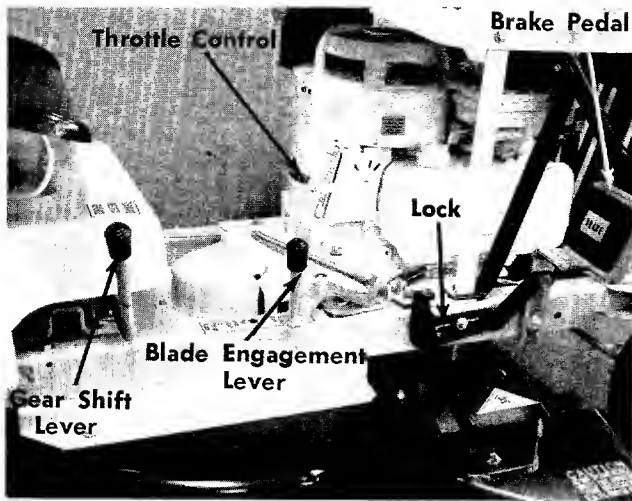

FIGURE 7. RIGHT SIDE OF MOWER
A. Throttle Control actuates the butterfly in the carburetor and may be set at CHOKE, FAST or SLOW. See figure 7.
- D. The Blade Engagement Lever engages and disengages the blade. Pull the Blade Engagement Lever back to stop the blade. Move the Blade Engagement Lever forward to engage the blade. See figure 7.
- E. The Gear Shift Lever is used to select either forward or reverse. See figure 7.
- G. The Brake Pedal is operated with your right foot and is used to stop the forward or reverse motion of the rider. To engage the brake, depress the Brake Pedal with your right foot. To set the parking brake, depress the brake and lift the lock. To release, depress the brake pedal. See figure 7.